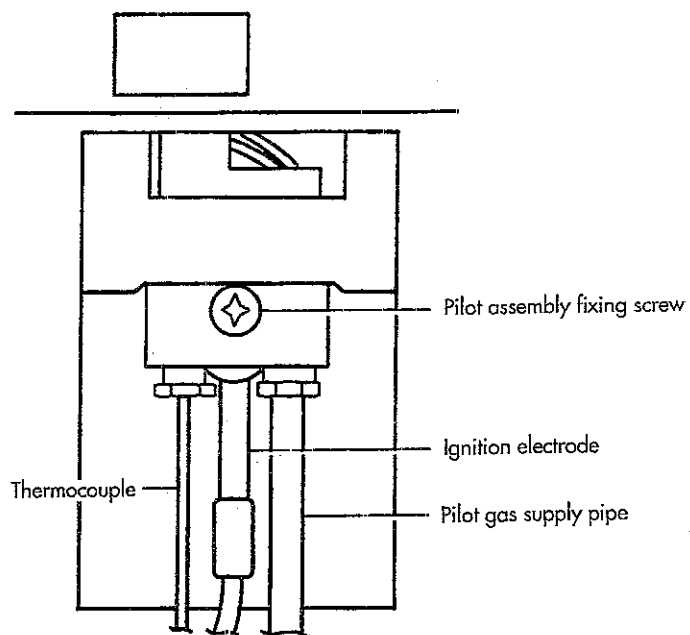

Fig. 34
- f) Remove the single pilot assembly fixing screw (fig. 34) Pull pilot assembly downwards.